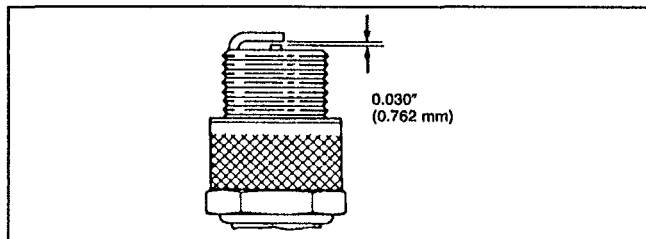

Figure 24
4. Set air gap between center and side electrodes at 0.030 of an inch (0.762 mm) (Fig. 24). Install correctly gapped spark plug w/gasket seal, and tighten plug to 15 ft-lb (20.4 N·m).